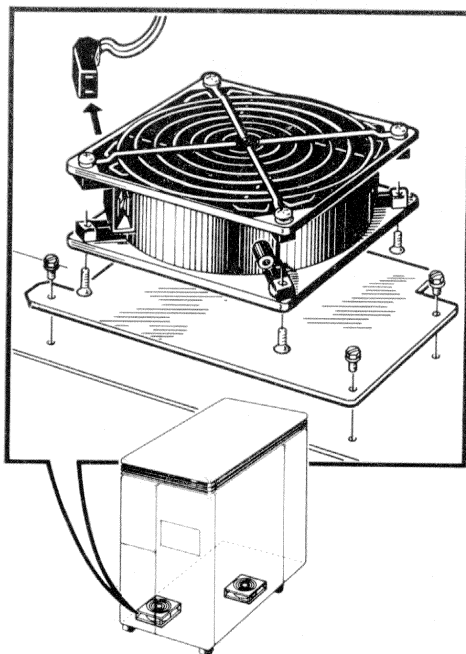

Figure 6-14 Mass Storage Fan Removal
3. Remove the three screws that connect the fan's metal base plate to the enclosure frame. (Figure 6-14)